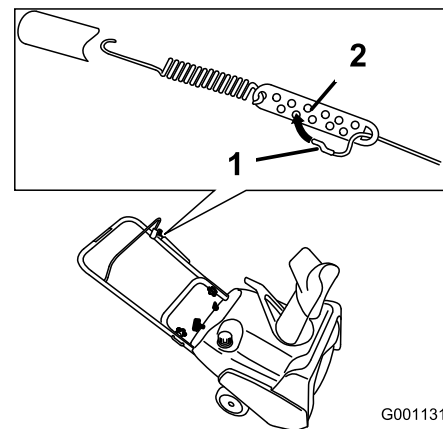

Figure 24
2. Move the Z-fitting to a higher or lower hole on the adjuster link as needed to obtain the 1/16 to 1/8 inch (2 to 3 mm) gap between the control bar and the handle (Figure 24).